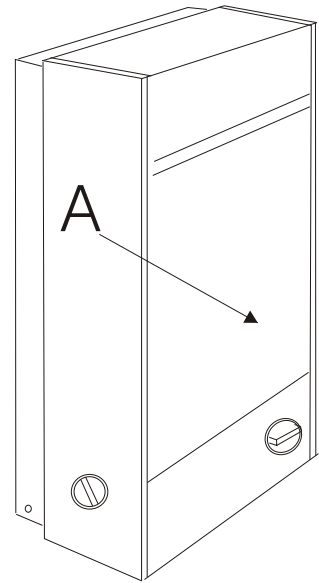

Fig 1
1. Push the control knob fully in (see fig. 2) and turn it slowly anti-clockwise from the OFF position to the pilot position. Whilst the control knob is being turned, the igniter operates and sparks. The pilot burner will now be lit and this can be checked by looking through the observation window in the direction of arrow 'A', (see fig. 1). Keep the control knob pushed in for 10 seconds then release it. The pilot burner should remain lit.